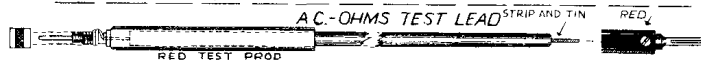

Fig. 14
- ( ) AC-Ohms test lead. The AC-Ohms test lead is made by connecting the red banana plug (V40) on one end of the red test lead (V46), and the red test prod (V42) on the other. Figure 14 shows the construction.